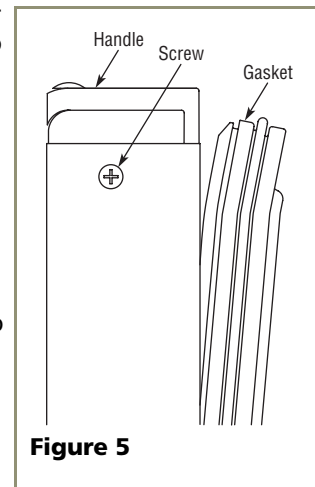

Figure 5
1. Open drawer. Pull drawer gasket out of groove (top edge of drawer only). Start in the middle and pull outward, moving toward the edge (see **Figure 5**). This may take some force.